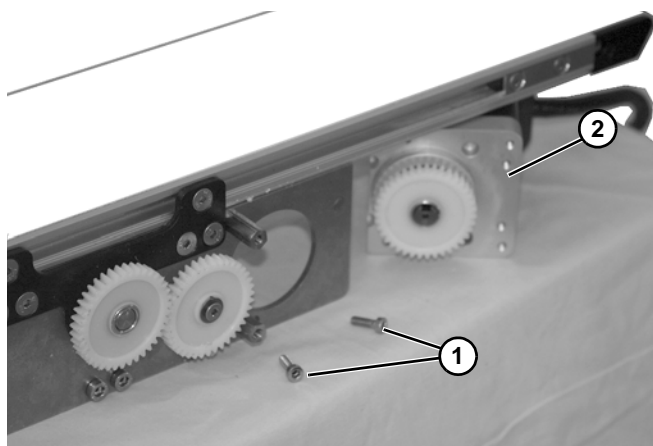

Figure 33
13. Install new gearmotor assembly (Figure 33, item 2) and tighten two screws (Figure 33, item 1) 15 in-lb (1.7 Nm).